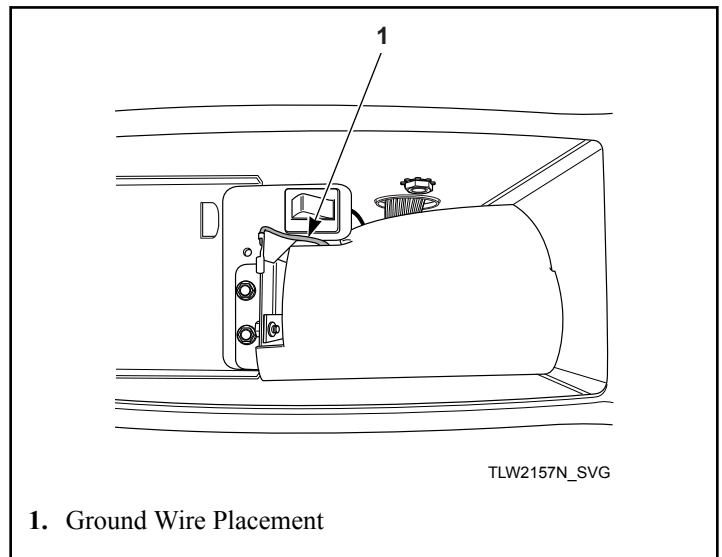

Figure 40
7. Before installing coin slide and extension, make sure ground wire is tucked under control shield to provide clearance for coin slide. Refer to *Figure 40* .